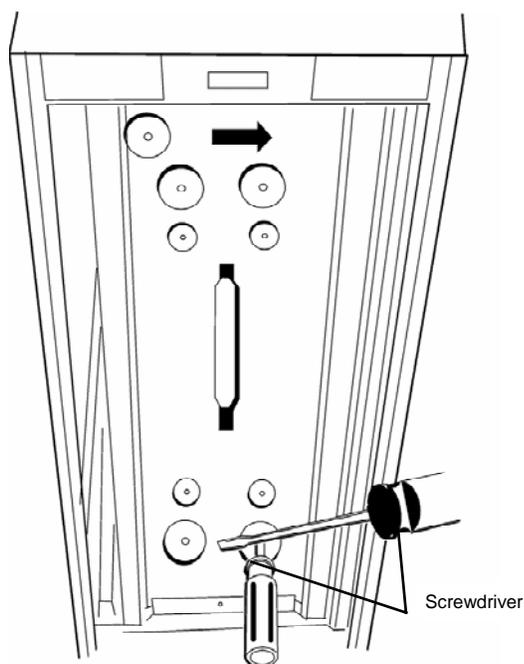

Fig. 10 — Testing For Bad Contacts
2. Place a screwdriver between plates of the cell, or place a small screwdriver into the hole in the end plate insulator and short with another screwdriver to cell end plate. See Fig. 10.